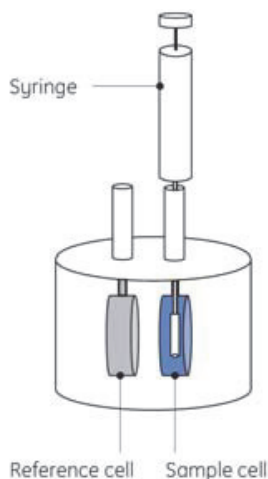

Figure 1. Schematic representation of the essential components of an ITC system such as MicroCal ITC.
Isothermal titration calorimeters measure the heat change that occurs when two molecules interact. Heat is liberated or absorbed as a result of the redistribution of non-covalent bonds when the interacting molecules go from the free to the bound state. ITC monitors these heat changes by measuring the differential power, applied to the cell heaters, required to maintain zero temperature difference between the reference and sample cells as the binding partners are mixed. The reference cell usually contains water, while the sample cell contains one of the binding partners (the sample, often but not necessarily a macromolecule) and a stirring (titration) syringe which holds the other binding partner (the ligand). The ligand is injected into the sample cell, typically in 0.5 to 3 μL aliquots, until the ligand concentration is two- to three-fold greater than the sample. Each ligand injection results in a heat pulse that is integrated with respect to time and normalized for concentration to generate a titration curve of kcal/mol vs. molar ratio (ligand/sample). The resulting isotherm is fitted to a binding model to obtain the affinity (K_D), stoichiometry (N) and enthalpy of interaction (ΔH). A schematic representation of an ITC system such as MicroCal PEAQ-ITC is shown in Figure 1.